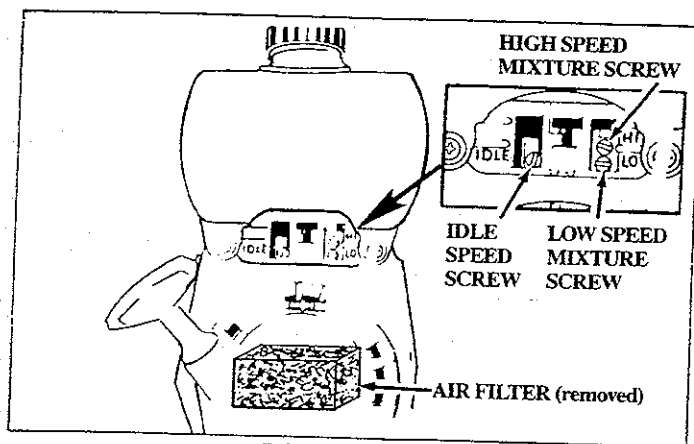

Figure 23
- b. Adjust Idle Speed Screw (Figure 23) until the engine continues to run without stalling and without the trimmer head moving.
- 2.) If the engine does not accelerate smoothly, turn the Low Speed Mixture Screw (Figure 23) counterclockwise ⬅ a small amount (no more than the width of the slot in the adjusting screw).
- Turn the Low Speed Mixture Screw (Figure 23) slowly clockwise ➡ until the speed starts to drop. Note this position.
c. Turn High Speed Mixture Screw (Figure 23) very slowly clockwise ➡ until engine speed is reduced.
a. Turn the Low Speed Mixture Screw and the High Speed Mixture Screw (Figure 23) clockwise ➡ just until they stop. Do not turn the screws until they are tight as damage to the needle seats can occur.